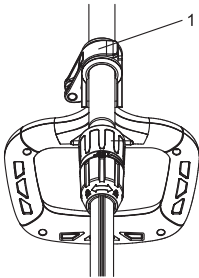

Fig. 4
**NOTE:** The assist handle mounting bracket can be slide up or down the telescoping tube, rotate from side to side or tilt forward or backward to place the assist handle in the most comfortable position. Turn locking lever (1) before adjusting the assist handle position and retighten it to lock the assist handle in the new position. (Fig.4)